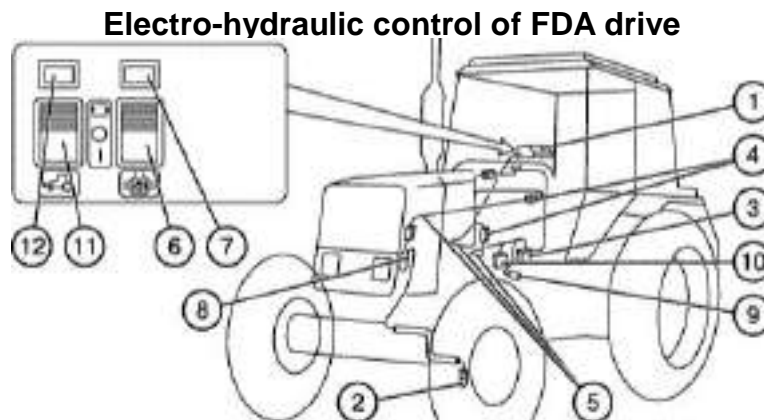

Fig.E-28. Rear axle differential lock-up (DL) and FDA drive control system:
The electro-hydraulic control system of the rear axle (Fig. E-28) consists of the panel (1), automatic control sensor (9) FDA reduction gear, FDA drive clutch control electro-hydraulic distributor (10) located on the right-hand GB cover and connecting cables (5) with terminal blocks
(4). The system is supplied with power from the on-board power system via a safety fuse in the fuse box installed in the dashboard. The system is powered after starting the engine. The key (11) of the FDA drive control and the FDA drive engagement indicator lamp (12) are in-